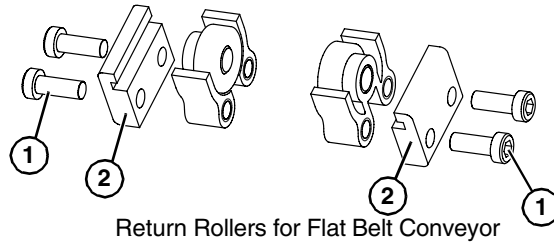

Figure 9
1. Locate return rollers. Exploded view shown in **Figure 9**.
2. Remove screws (**Figure 9, item 1**) and clips (**Figure 9, item 2**) from roller assembly.